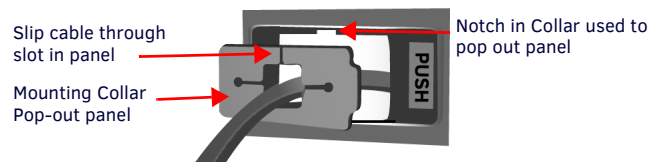

FIG. 10 RCM MOUNTING COLLAR POP-OUT PANEL
2. From the top of the mounting collar, press a small flat blade screwdriver into the notch on the split side of the pop out panel and pop it out of place (FIG. 10).